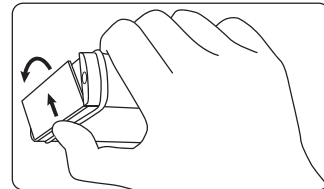

Fig. 3-5: Opening hinged cover
- ☞ Open the hinged cover fully as shown in Fig. 3-5.